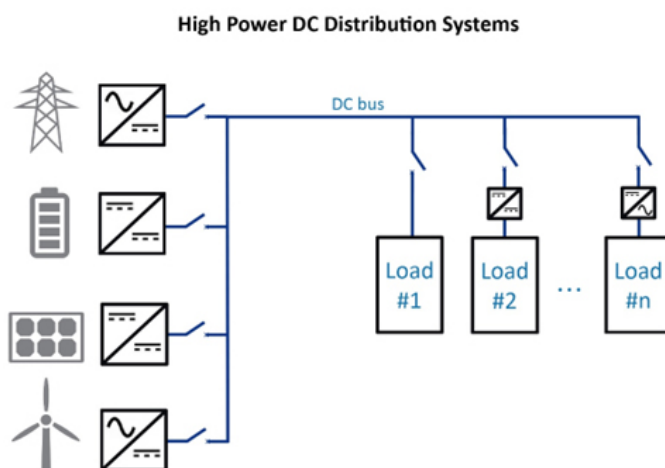

Figure 2: Generalized high-power DC distribution system
**Figure 2** shows a generalized DC distribution system with the energy sources shown on the left and the various loads shown on the right. This type of DC distribution system can be used for fault protection such as over-current, short-circuit and transients in electrification applications like EVs, trains, aviation, data centers, industrial equipment and energy grid and storage.